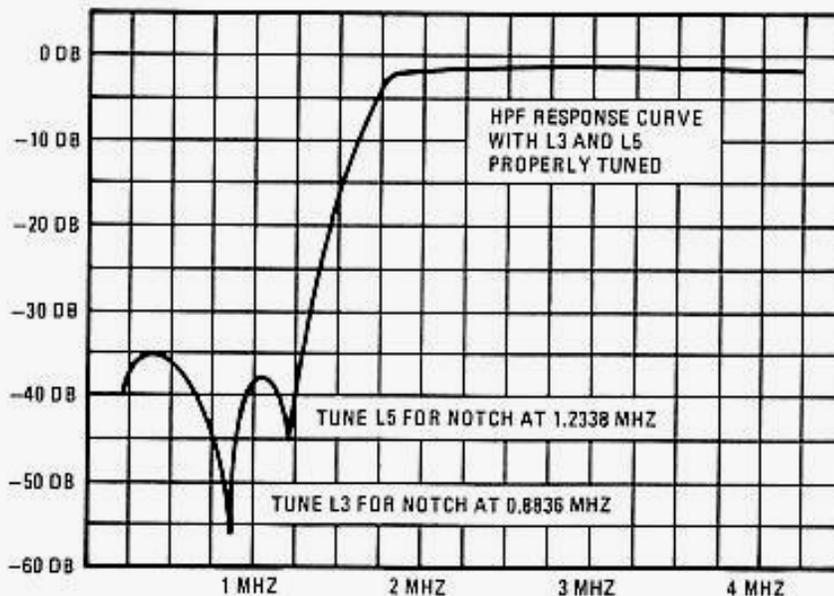

Figure 5. HPF Response Curve
Normally, the receive signal is routed from P1-42, through the closed contacts of K1, and to the high and low pass filter sections that precede the input mixer. The low pass filter section is fixed tuned. L3 and L5 in the high pass filter section are adjusted at 0.8836 MHz and 1.2338 MHz respectively to produce the typical response curve shown in figure 5.
- c. Connect the Spectrum Analyzer to pin 1 of U1, the 1st receive mixer, and adjust to display spectral elements shown in figure 5.